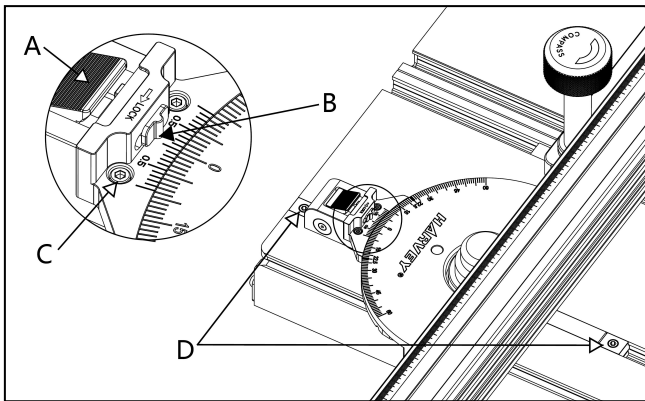

Fig.20
(1) Lock the guide bar by rotating the lock screw (D) counterclockwise with a 4mm hex wrench, as shown in **Fig. 20**.
(2) As shown in **Fig. 20**, place the slide button (B) in the unlock position. Then press the swing locating block (A) and adjust the fence to 90°. Check if the cursor line aligns with the 0° graduation. If any deviation occurs, loosen the two lock screws (C) and adjust the cursor.
10.1 Angle Positioning (**Fig. 20**)
(1) Using the positive stops
The miter gauge has 9 commonly used positive stops: 0°, ±22.5°, ±30°, ±45° and ±60°. As shown in **Fig.20**, loosen the fence lock handle, then rotate the miter gauge body to the desired angle while keeping the swing locating block (A) pressed. When you get close to the desired angle, just release the swing locating block (A) and slightly rotate the miter gauge, it will be locked to the positive stop automatically. Tighten the fence lock handle after swinging the fence slightly.
(2) Adjusting free miter angles